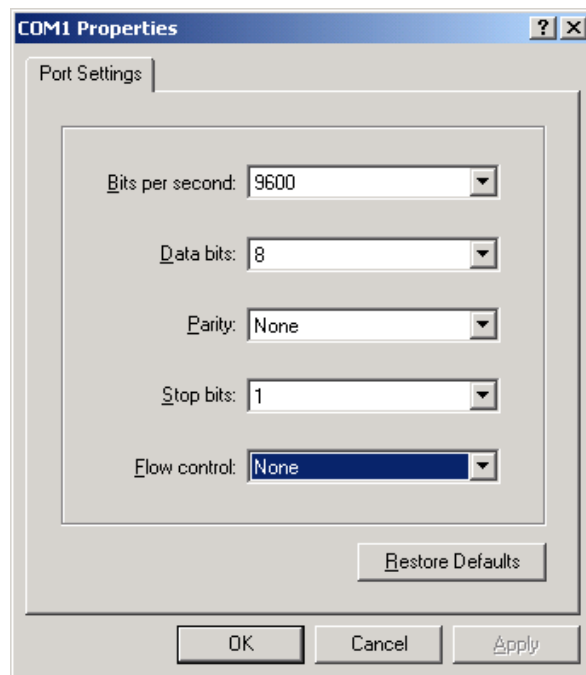

FIGURE 4-4 SERIAL PORT PARAMETER SETTING
Step 3: After selecting the serial port, click **OK** to display the interface of setting the serial port parameters as shown in Figure 4-4. Set the baud rate as 9600, data bit as 8, parity check as none, stop bit as 1 and data flow control as none.